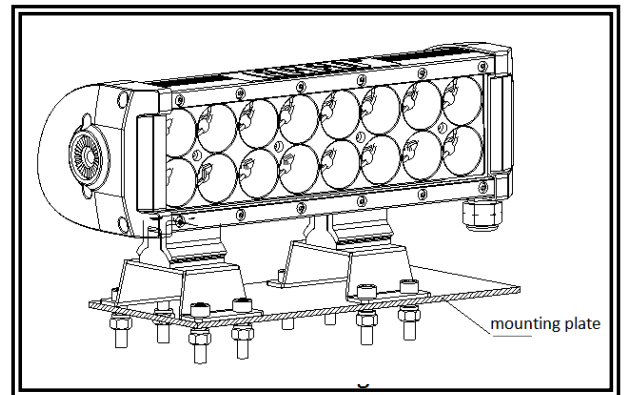

Figure 5
3. Put hexagon bolt through bracket and mounting plate, then put spring meson, then fasten nut. See Figure 5.